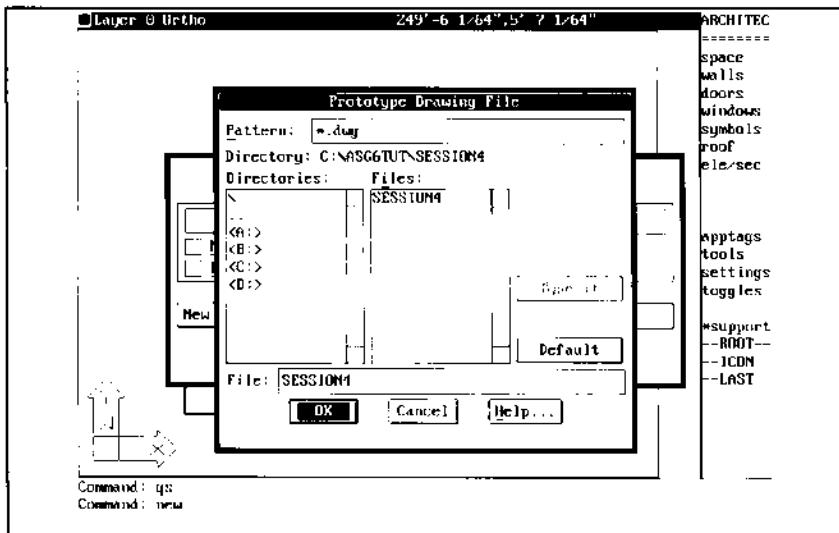

Figure 49.
3. Double click on the SESSION4 drawing from the ASG6TUT\SESSION4 directory, as shown in Figure 49, to accept it as a prototype.